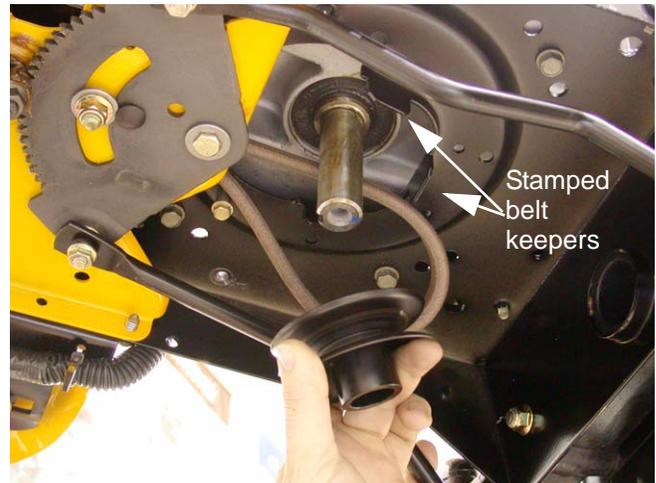

Figure 17.14
17.14. Lower the drive pulley far enough to allow the belt to slip past the keepers that are stamped into the frame. Slip the belt off of the pulley and remove the pulley. See Figure 17.14.